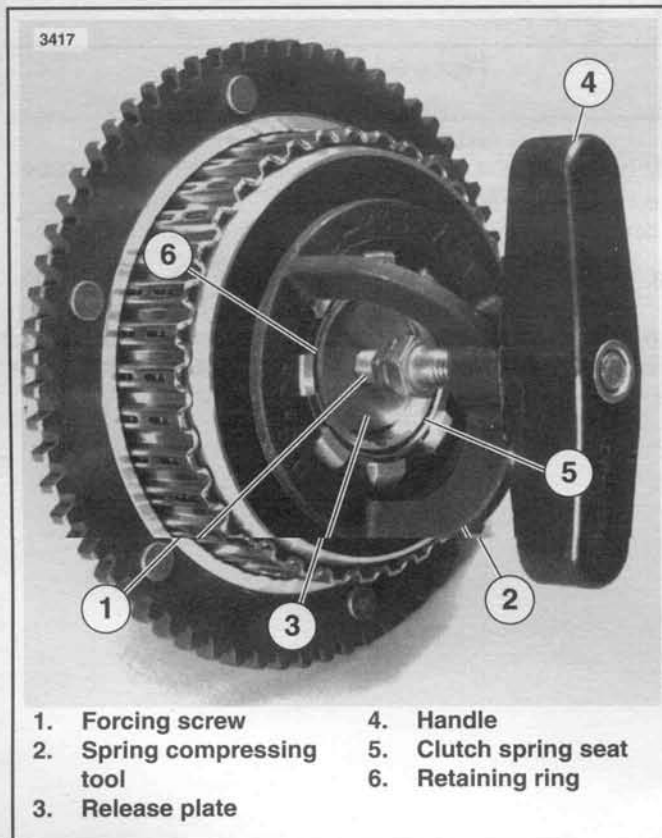

Figure 6-10. Compressing Clutch Diaphragm Spring
3. See Figure 6-10. Thread forcing screw (1) of H-D **SPRING COMPRESSING TOOL**, Part No. HD-38515A (2), into the threaded hole in release plate (3) until hex on forcing screw contacts release plate.
- See Figure 6-10. Thread forcing screw (1) of H-D SPRING COMPRESSING TOOL, Part No. HD-38515A (2), into the threaded hole in release plate (3) until hex on forcing screw contacts release plate. Check that the outer diameter of the diaphragm spring is concentric with the inside diameter of the spring-pocket on the pressure plate. Center spring following instructions in step 7 above if required.
- See Figure 6-10. Turn handle (4) clockwise to compress the diaphragm spring and move the clutch spring seat (5) inward enough to allow retaining ring (6) installation. The ends of retaining ring (6) must not overhang the posts or bosses on the clutch hub. See Figure 6-10 for a properly installed retaining ring.
- Release compressing force on diaphragm spring by turning handle (4) counterclockwise while checking that clutch spring seat (5) lip is seated inside retaining ring (6).